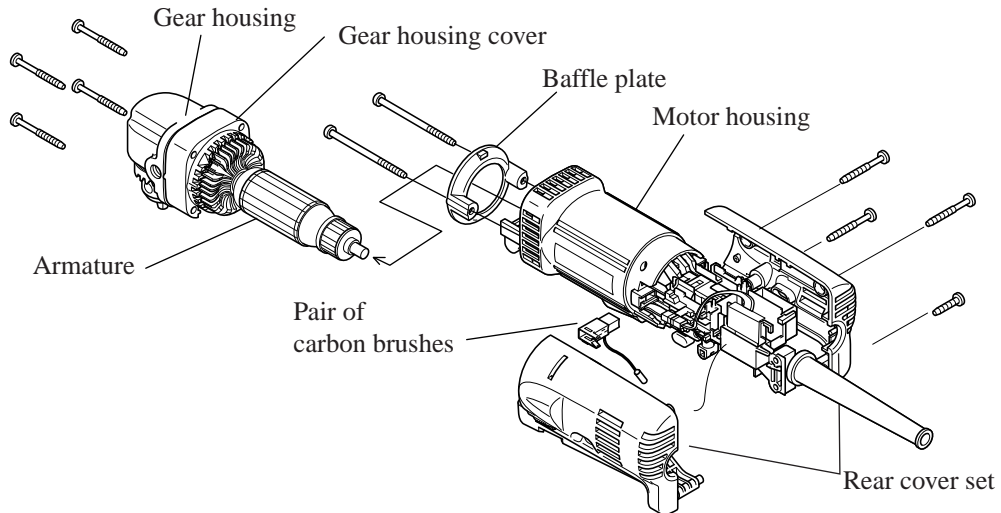

Fig. 17
(1) Remove the following parts from motor housing. See Fig. 17.